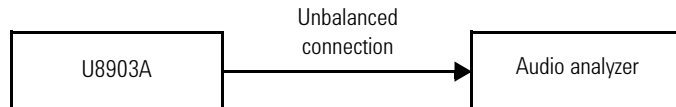

Figure 2-5 U8903A to audio analyzer connection for distortion verification
- 1 Connect the U8903A output channel to be tested to the audio analyzer via the Unbalanced connection as shown in Figure 2-5. Preset both the U8903A and audio analyzer.